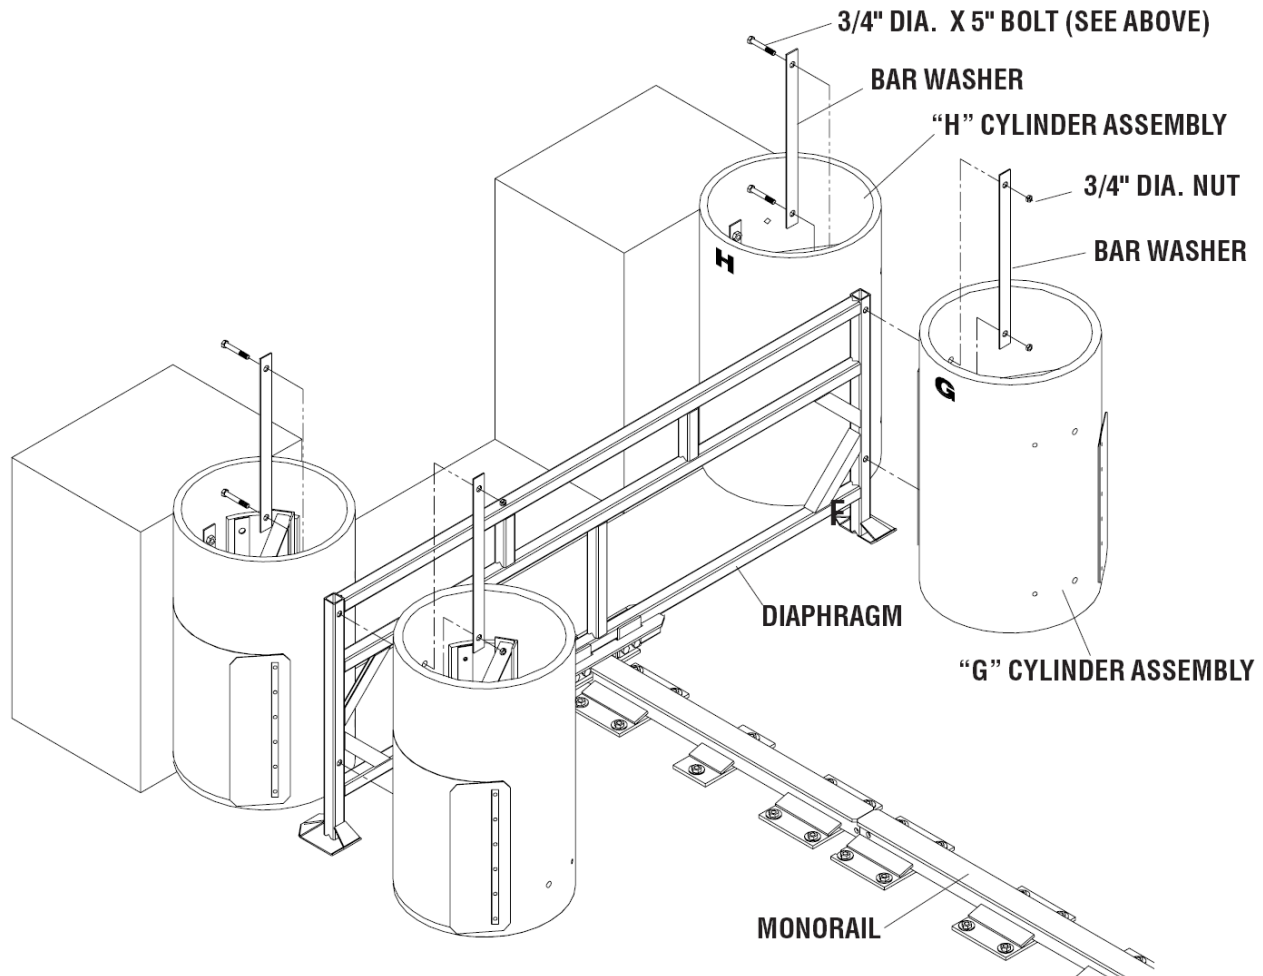

Figure 24
When the REACT 350® Wide (96"/120") is properly assembled, the Cylinders will be oriented as shown in Figure 24 on page 31. The two Cylinders marked "H" will be against the Backup, and the letters will ascend as you move toward the front of the system (Figure 21).
3. Reassemble "G" Cylinder/Diaphragm Assembly onto "H" Cylinder Assemblies as shown in Figure 24.